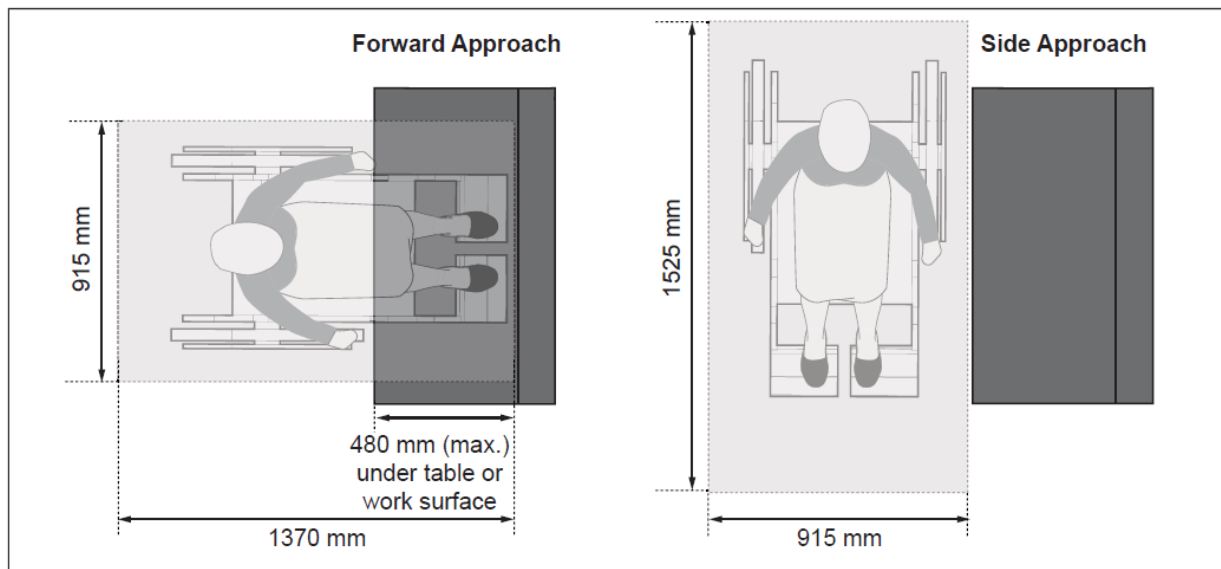

Figure 44: Clear Floor Space Requirements and Approach at Tables and Work Surfaces – Plan View
- Side approach: 1525 mm wide by 915 mm deep (see Figure 44)